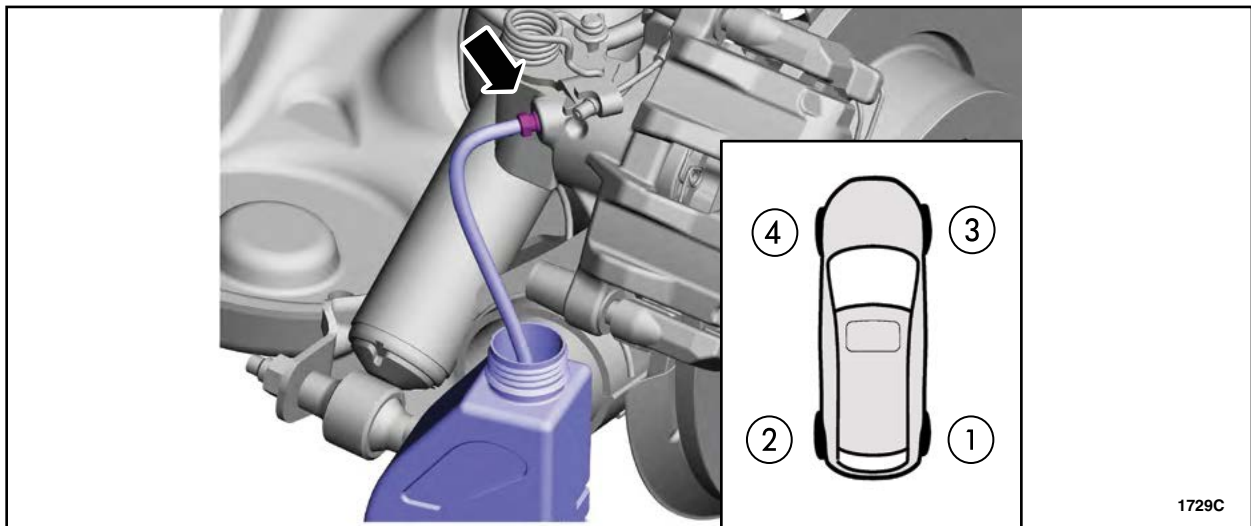

FIGURE 24
- Loosen all four caliper bleeder screws in the order indicated. See Figure 24. Allow approximately 10 fl oz (295.7 mL) to drain from each bleeder screw.